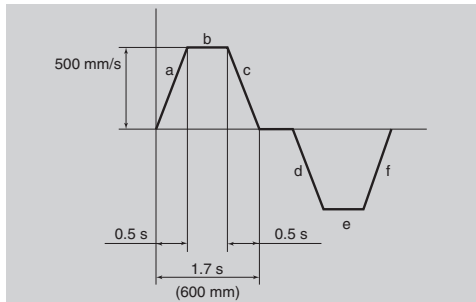

Fig. 4.9
3-1-1. Fatigue life; Multiply the result of the Eq. ② by the dynamic equivalent coefficient (Table 4.14. double slider) to convert the load volume. From operation profile (Fig. 4.9), the acceleration is  $1 \text{ m/s}^2$ .